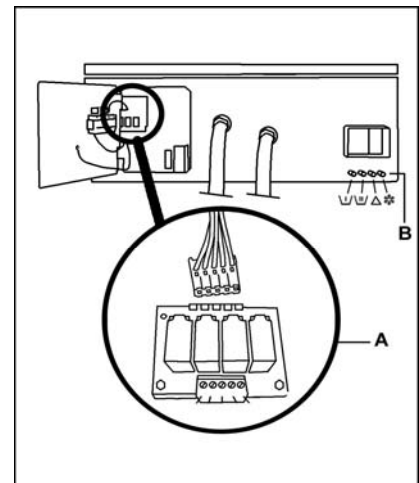

fig. 1
4. Mount the external dosing relay board on the supports (**figure 1 / A**).
5. Connect the white plug from the relay control wiring to the external dosing relay board (**figure 1/A**). If the system supply is to be connected immediately go straight to step 3.1.